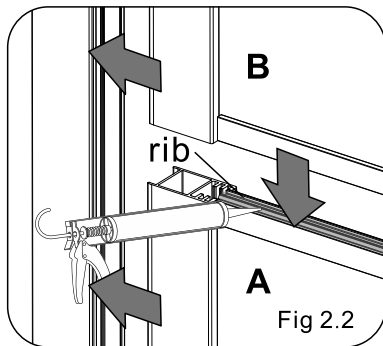
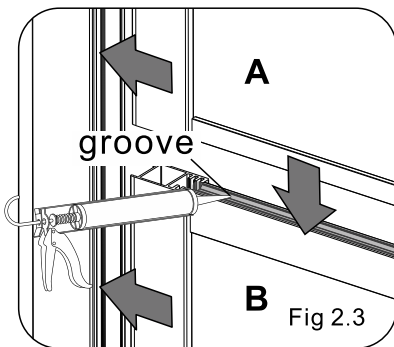
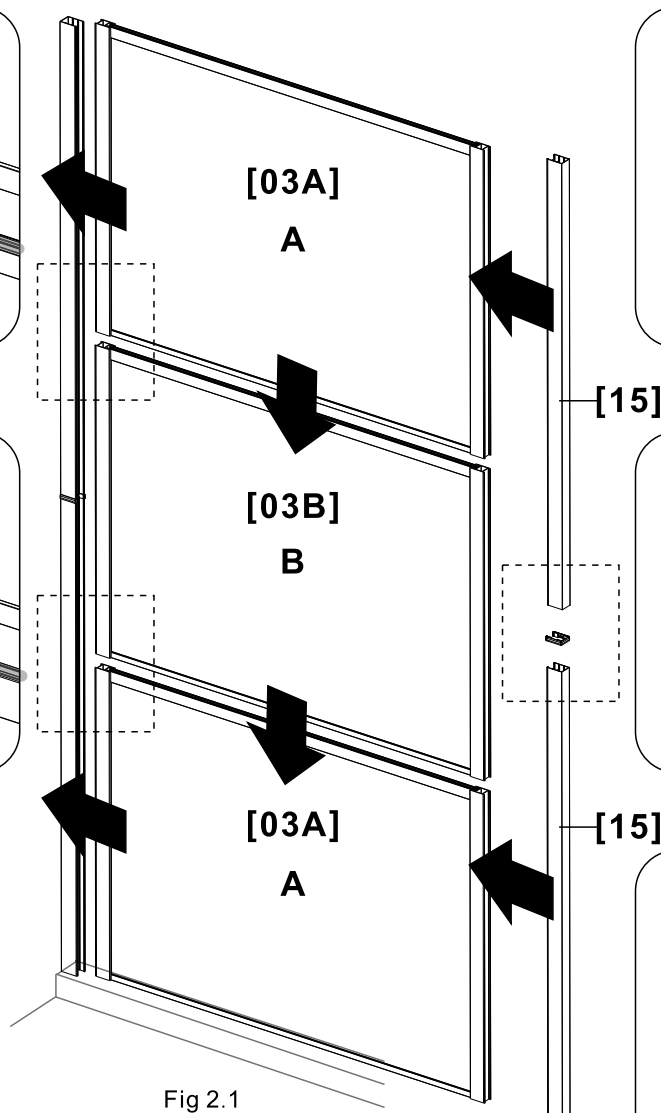

Fig 2.2
Fig 2.3
Fig 2.1
Note: The **ribs** of **Shower Panel A [03A]** faces upward. (Fig 2.1, Fig 2.2)
2. Push 1/3 profile rail of the **Shower Panel B [03B]** into the **groove** of **Wall Jamb [01]** and slide it down to the installed **Shower Panel A [03A]** and align with it as figure shows. Apply a good quality silicone sealant to the groove of the **Shower Panel B [03B]**. (Fig 2.1, Fig 2.3)
3. Push 1/3 profile rail of another **Shower Panel A [03A]** into the **groove** of **Wall Jamb [01]**. Then slide it down to the installed **Shower Panel B [03B]** and align with it as figure shows. (Fig 2.1, Fig 2.3)
Note: The **ribs** of **Shower Panel A [03A]** faces downward. (Fig 2.1, Fig 2.3)